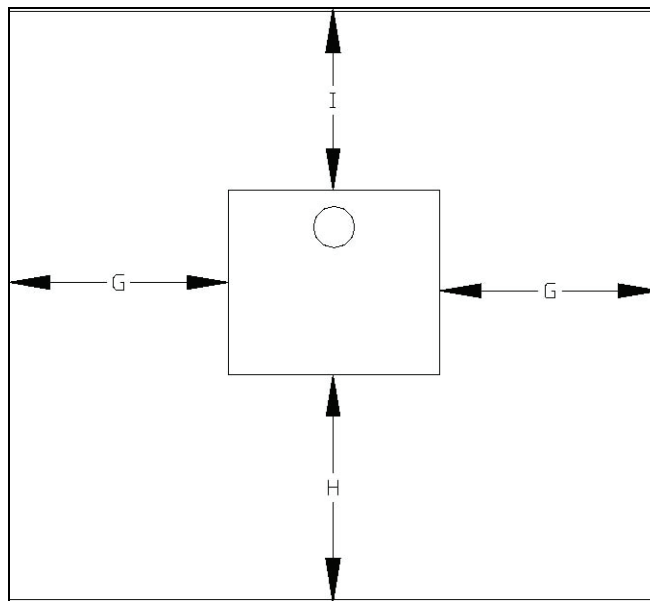

FIGURE 4: FLOOR PROTECTOR DIMENSIONS
1. All Country Flame freestanding catalytic woodstoves require a listed floor protector that is noncombustible. Country Flame catalytic stoves were tested with a listed floor protection that had a thermal conductivity of $K = 0.85$ BTU-inch per hour per square foot per degree Fahrenheit and that was 3/8" thick (9.5mm) non-asbestos millboard. Refer to FIGURE 4 and TABLE 4 for floor protector information.
TABLE 3: FLOOR PROTECTOR, IN INCHES, REFERS TO FIGURE 4